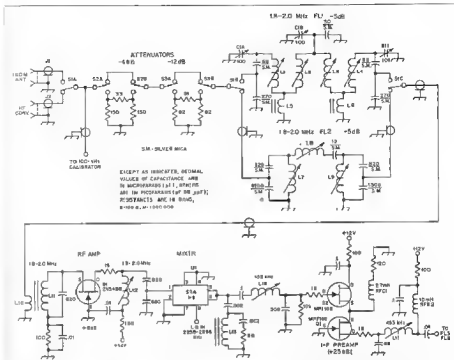

Fig. 1—Schematic diagram of the receiver front end. Fixed-value capacitors are disk ceramic unless otherwise noted. Resistors
**Dial calibration.** Calibrate the tuning dial after the tuning range has been set and any backlash has been ironed out. In the model shown in Fig. 1, calibration of the 10- and 18-MHz TUNING scales differs by the width of a dial marking. The left edge of each mark is used during 18-MHz tuning (18 MHz L); the right edge is used during 10-MHz reception (10 MHz R). Calibration of the full TUNING capacitor rotation (360°/180° for each band) would make this unnecessary, but one band would tune "backward" relative to the other.
Fig. 1 shows the rf amplifier, mixer and post-mixer amplifier. What may seem like excessive elaboration in design is a matter of personal whim, but the features are useful, nevertheless. For example, the two front-end attenuators aren't essential to good performance, but are useful in making accurate measurements (6, 12 or 18 dB) of signal levels during on-the-air experiments with other stations (antennas, amplifiers and such). Also, FL2, a fixed-tuned 1.8- to 2-MHz band pass filter, need not be included if the operator is willing to re-tweak the three-pole tracking filter (FL1) when tuning about in the band. The fixed-tuned filter is my preference when the down converters are in use.